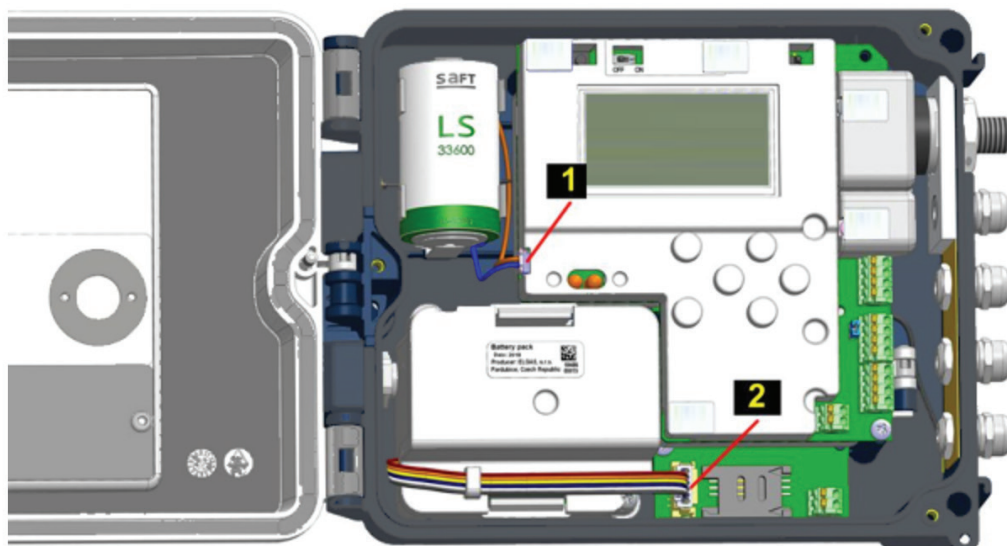

Fig. 37 Replacing the modem - disconnecting the power supply
1. Disconnection of all supply voltages of the device (Fig. 37)
- Disconnect the EVC power supply battery, connector **1** (Fig. 37).